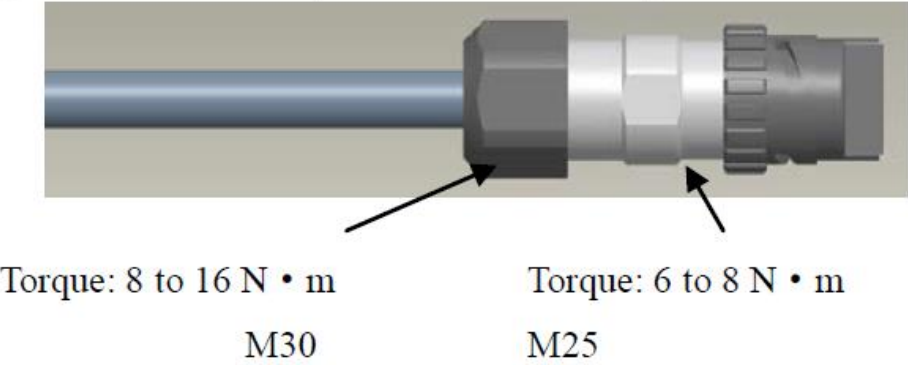

Figure 4-20 Wire assemble
Step 4: Press the Plastic clip (5) down into a tightly seated position into the shell (3). Assemble the nut (10) onto the shell (3) and tighten using an M25 and M30 spanner as shown. Torque: 8 to 16N·m, as shown in Figure 4-20.